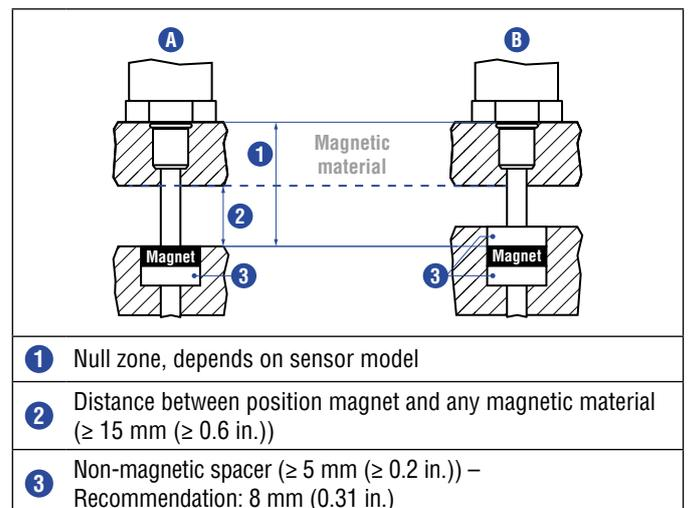

Fig. 67: Installation with magnetic material
- Minimum distance between position magnet and any magnetic material has to be 15 mm (0.6 in.) (Fig. 67).
- If no other option exists and magnetic material is used, observe the specified dimensions (Fig. 67).
When using magnetic material the dimensions of Fig. 67 must be observed.